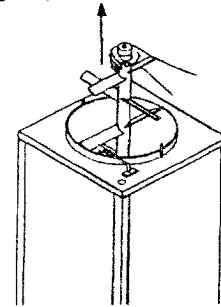

Fig. 6
D. Remove Retaining Knob and lift out the agitator assembly (See Fig. 6).